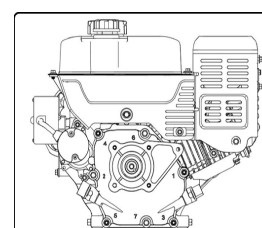

Figure 34
- Unscrew oil fill cap from oil filler tube and wipe dipstick clean. See Figure 34.
- Locate the oil drain plug, See figure 34.
- Clean area around oil drain plug, see Figure 34.